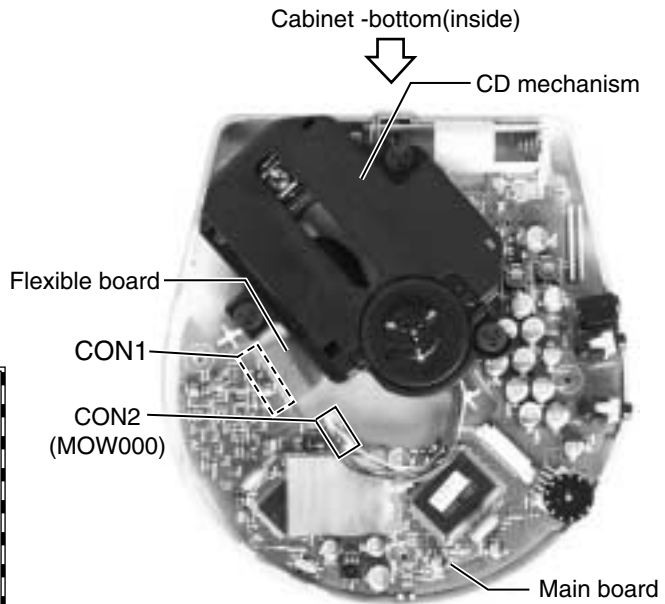

Fig.5
**■ Removing the CD mechanism (See Fig.5)**